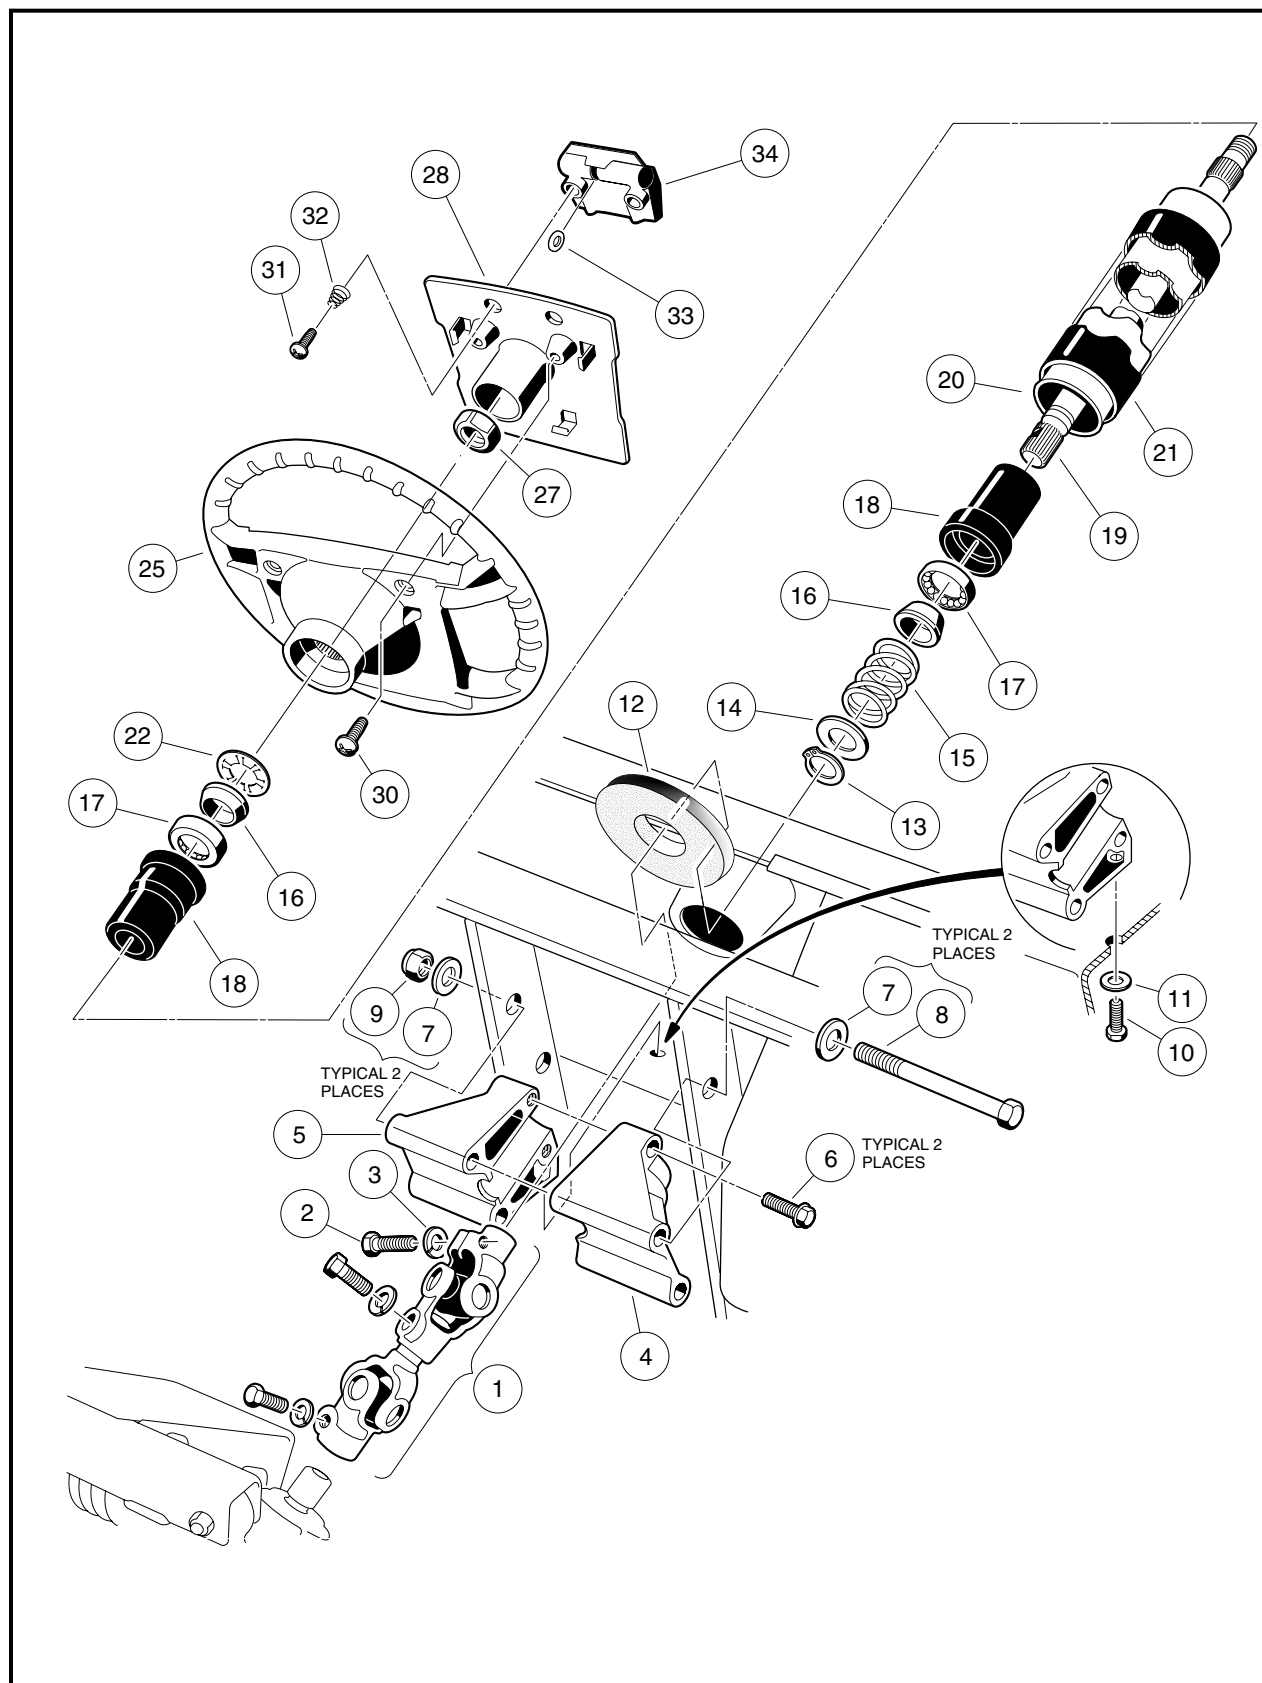

Figure 7-3 Steering Column
2. Remove the two mounting screws (30) and plate (28) (**Figure 7-3, Page 7-3**).
3. Match mark the steering wheel (25) and steering shaft (19) so when the steering wheel is removed it can be placed back in exactly the same position on steering column shaft.
4. Loosen the steering wheel nut (27) and back it off approximately 1/4 inch (6 mm). Do not remove the nut.
- 5.6. Remove the steering wheel nut (27) and the steering wheel (25) from the steering column (20) (**Figure 7-3, Page 7-3**).
1. Install the steering wheel (25) on the splines of the steering shaft (19). Be sure to align the match marks placed on the wheel and steering column in step 3 above (**Figure 7-3, Page 7-3**).
2. Install the steering wheel nut (27) and tighten to 13 ft-lb (17.6 N·m).
3. Install the scorecard plate (28) and plate mounting screws (30) (**Figure 7-3, Page 7-3**). Tighten screws to 16 in-lb (1.8 N·m).
6. Remove the upper bolt (2) and lock washer (3) from the universal joint (**Figure 7-3, Page 7-3**).
7. Remove the nuts (9), bolts (8 and 10), and washers (7 and 11) from the steering column mount (4 and 5).
1. Remove screws (6) and mount (4 and 5) from steering column. Remove boot (12) (**Figure 7-3, Page 7-3**).
2. While supporting steering column (21) on a workbench, remove snap ring (13) from shaft. **See following NOTE.**
4. Insert the shaft (19) from the bottom of the steering tube (20) **(Figure 7-3, Page 7-3)**.
1. Install boot (12). Reinstall mount (4 and 5) onto the end of the steering column. Tighten bolts (6) to 20 ft-lb (27 N·m) **(Figure 7-3, Page 7-3)**.
3. Position the steering column assembly in the vehicle while inserting the steering column shaft into the upper universal joint (1). The flat portion of the steering shaft spline (19) must be aligned with the bolt hole in the universal joint (1) before sliding the spline into the universal joint. While holding the steering column in place, attach it to the frame using bolts (8) washers (7) and nuts (9) **(Figure 7-3, Page 7-3)**. Thread the nuts onto the bolts but do not tighten them.
4. Reinstall washer (11) and screw (10). Tighten to 20 ft-lb (27 N·m).
5. Install the bolt (2) and lock washer (3) on the upper universal joint and finger-tighten.
6. Tighten the two nuts (9) and bolts (8) to 17 ft-lb (23 N·m).
7. Tighten the bolt (2) on the upper universal joint to 15 ft-lb (20 N·m).
8. Check the other two bolts on the universal joint (1) to ensure that they are properly tightened to 15 ft-lb (20 N·m) **(Figure 7-3, Page 7-3)**.
5. Remove the bolt (2) and flat washer (3) on the upper universal joint, then remove the rack assembly and universal joint from the vehicle (**Figure 7-3, Page 7-3**).